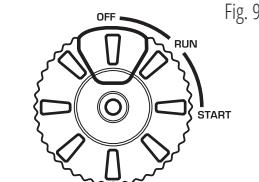

Fig. 9
3. Turn the Multifunctional engine switch to the "OFF" position (Fig. 9).
4. Turn the Multifunctional engine switch to the "OFF" position (Fig. 9), for dual fuel models - move the fuel switch to the "OFF" position/ close LPG supply valve.